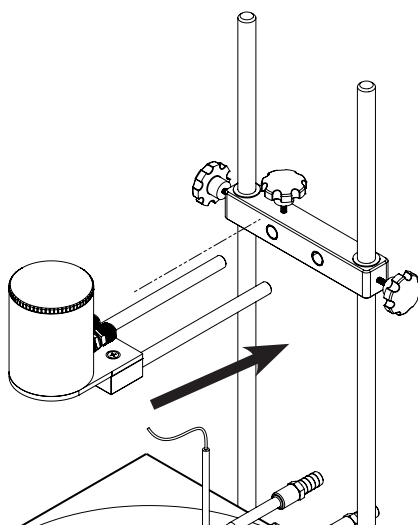

Fig. 11 : Overhead Stirrer
- Insert the neck support clamp into the stirrer support column shown in fig.11.
- Insert the overhead stirrer into the second column as shown in fig.11.